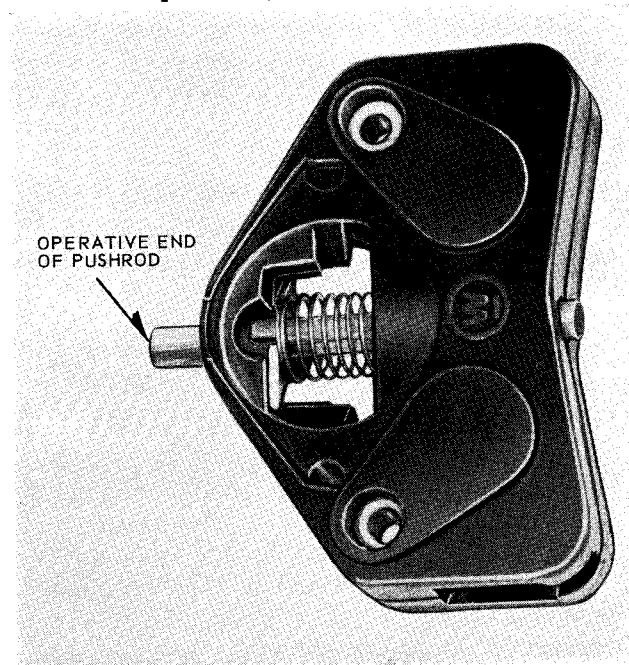

FIG. 3. Interlock Set for Normally Open Operation (Shown with Covers Removed)
3. Note that the contacts are now open and that the interlock is operated by depressing the pushrod from the end indicated in Figure 3.